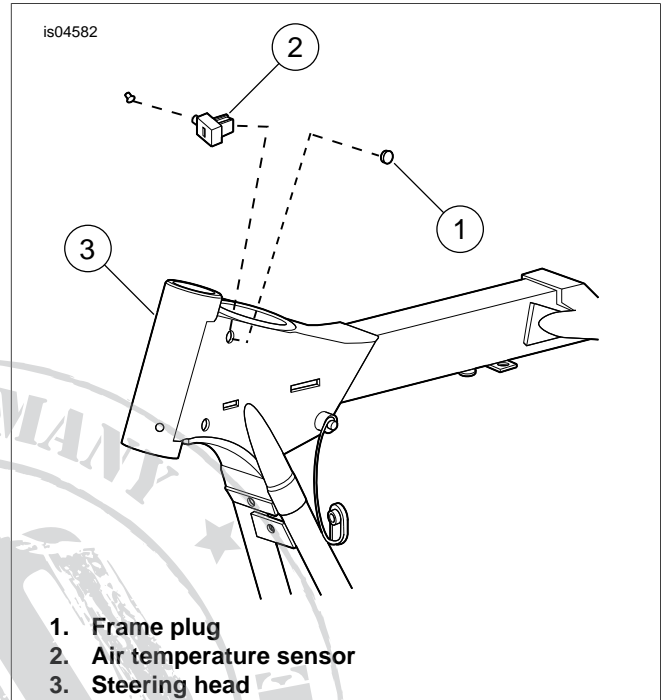

Figure 7. Location of Air Temperature Sensor - 2008 and Later Models
For 2008 and Later Models: See Figure 7. Remove frame plug (1). Push sensor post into hole to install sensor. Secure wire harness with cable strap from the kit.